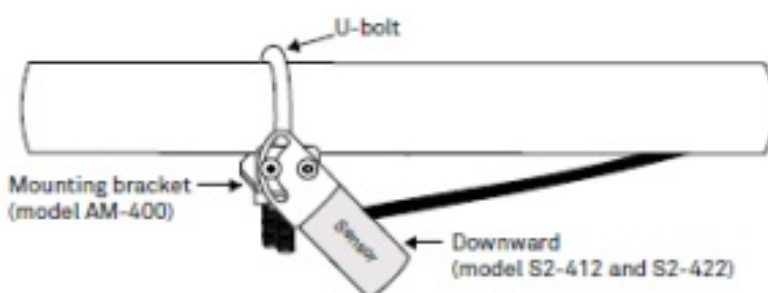

Figure 4 Downward-facing sensor installed on mounting post
3. Attach the sensor to the bracket using the nylon screw (Figure 4).
4. Attach the mounting bracket either to a horizontal arm (Figure 4) or vertical post using the included U-bolt.